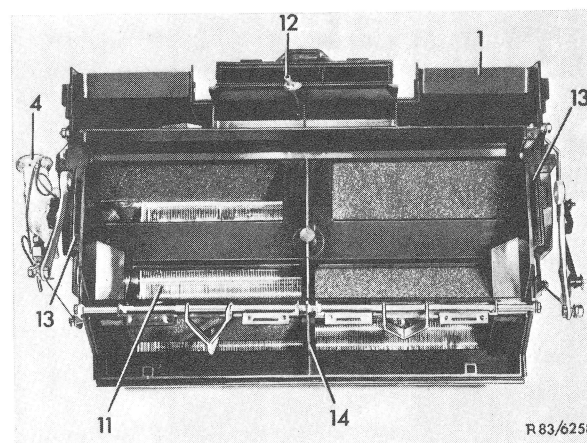

Figure 2 Evaporator box
- 3 Unscrew hose line on expansion valve and on evaporator pipe and close (83.1–730, item 1 to 5).
- 6 Pull guide tube (12) out of flap section (14) or evaporator (Fig. 2).